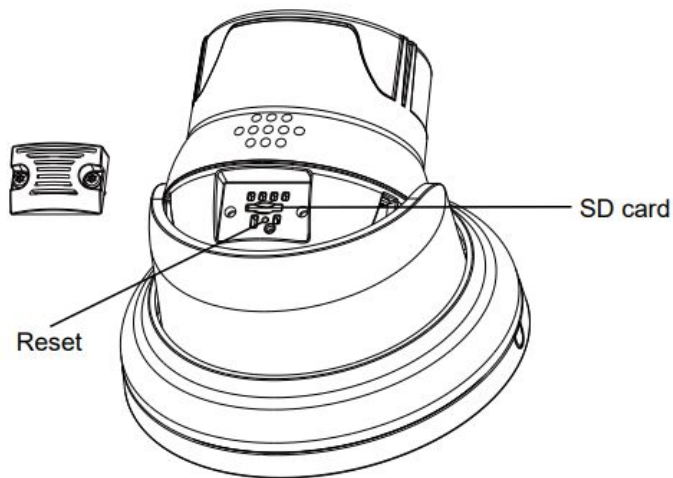

Figure 1-8
Step 1 You will need to loosen the camera base to rotate the camera body. Please refer Figure 1-8 for SD card slot and reset location.